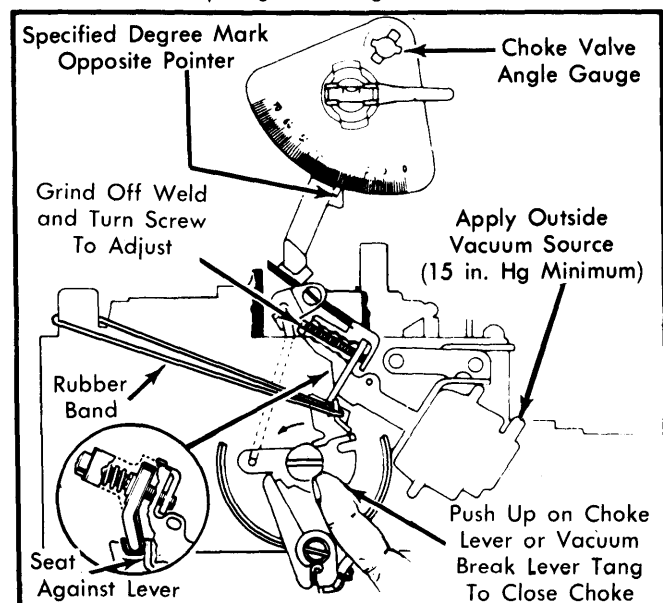

Fig. 7 Adjusting Primary (Front) Vacuum Break
1) Remove vacuum break from carburetor. Place bracket in vise, and grind off weld holding adjustment screw cover in place. Remove cover and reinstall vacuum break. Using an outside vacuum source of at least 15 in. Hg, seat primary (front) vacuum break diaphragm. See Fig. 7.